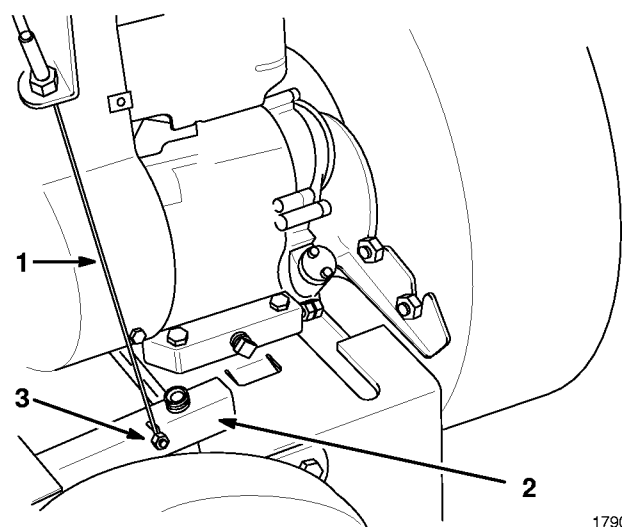

Figure 3
3. Hook lower end (ball end) of the traction control wire in keyhole slot in arm on the traction drive guard (Fig. 3). Secure ball in keyhole slot with screw and nut (Fig. 3).